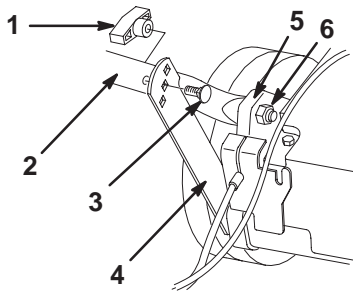

Figure 2
2. Install the lower handle section to the housing with 2 flange-head bolts and 2 nuts (Fig. 2).
3. Swing the lower handle section back and the support brackets up, aligning the brackets with the holes in the handle (Fig. 2).
4. Secure the handle to the support brackets with 2 carriage bolts and 2 knobs, using the height adjustment holes on the support brackets that best fit your height (Fig. 2).